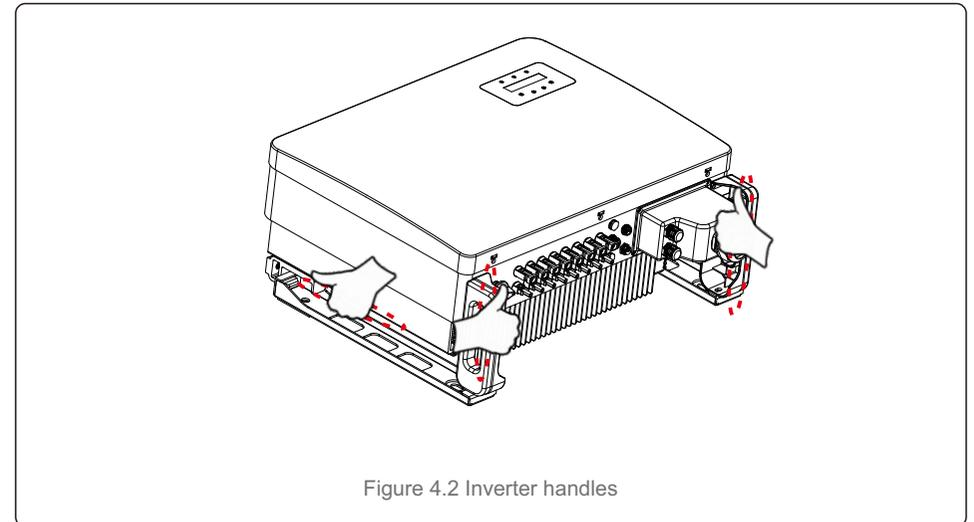

Figure 4.2 Inverter handles
2. Open the carton, then two people handle both sides of inverter through the area denoted dotted line ( see figure 4.2).